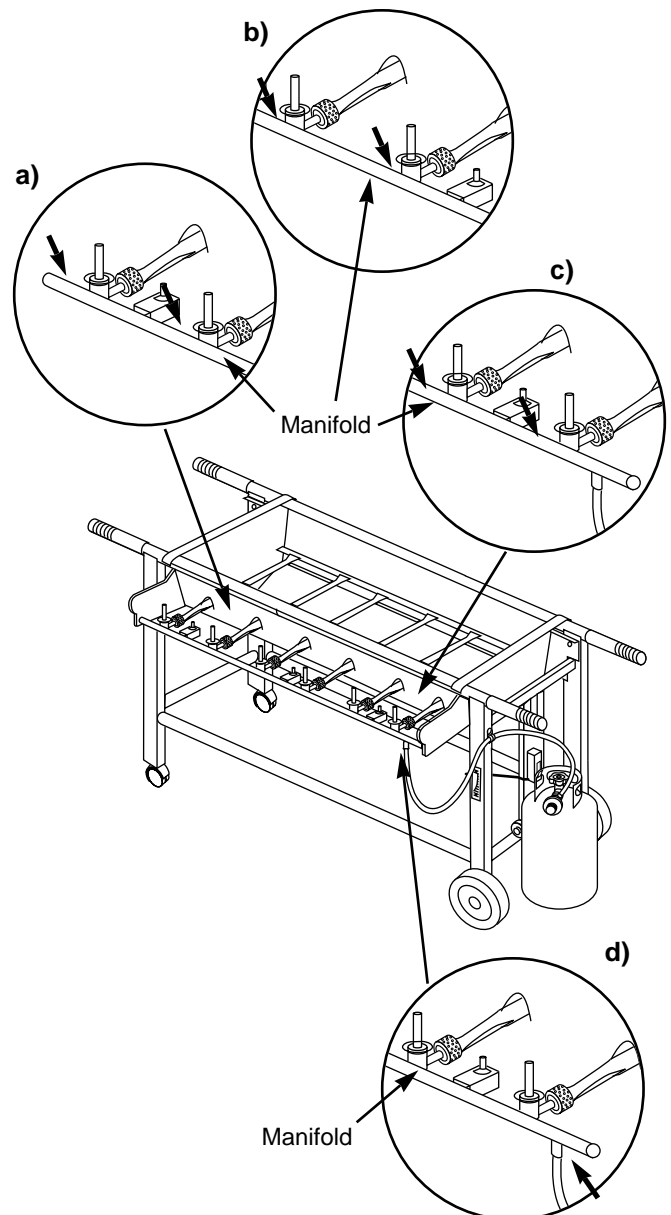

Figure 9
- Left valves to manifold connection. Figure 9 (a).
- Center valves to manifold connection. Figure 9 (b).
- Right valves to manifold connection. Figure 9 (c).
- Hose to manifold connection. Figure 9 (d)